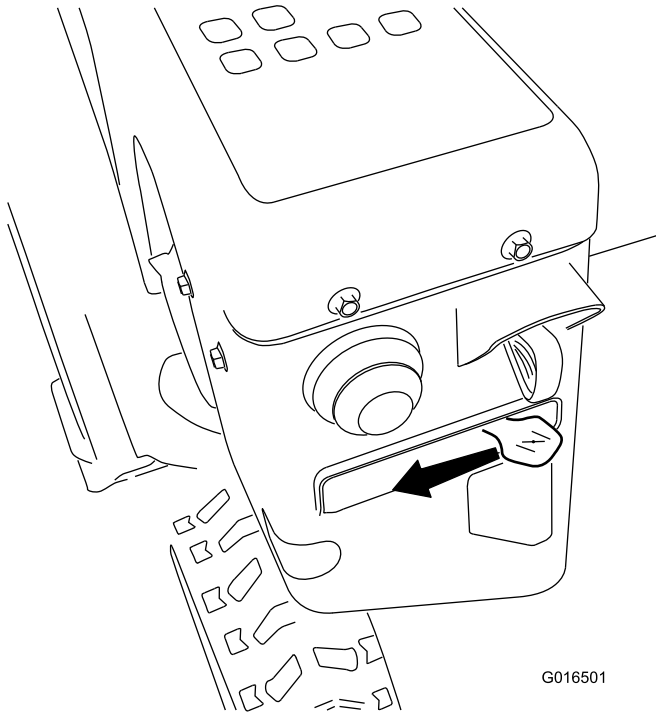

Figure 31
5. Move the choke to the Choke position (Figure 31).